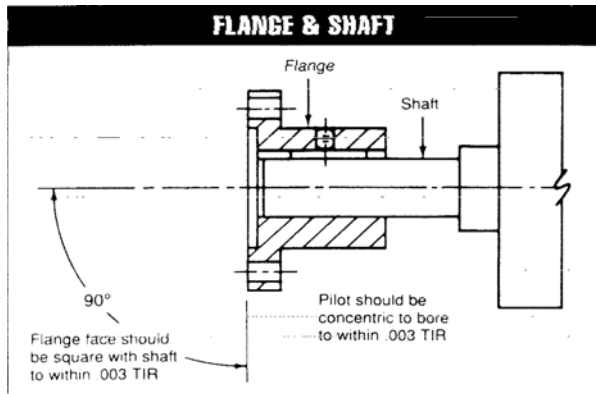

Figure 6
2.2.3 Check concentricity of companion flange face and pilot. Maximum allowable TIR is 0.003" on face and pilot (see Figure 6).